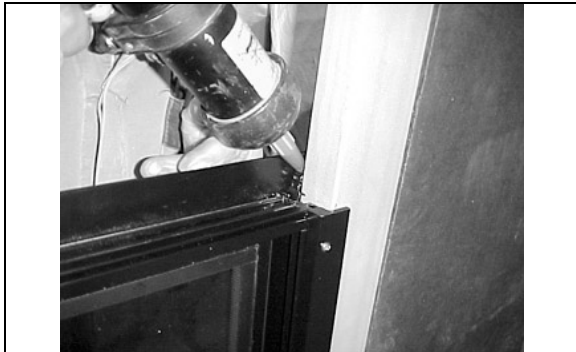

FIGURE 79 : SLIDING WINDOW – SEAL THE UPPER CORNERS
7. Using Sika 252 or 255, seal the inside upper corner of the sliding window, both side (FIGURE 79);